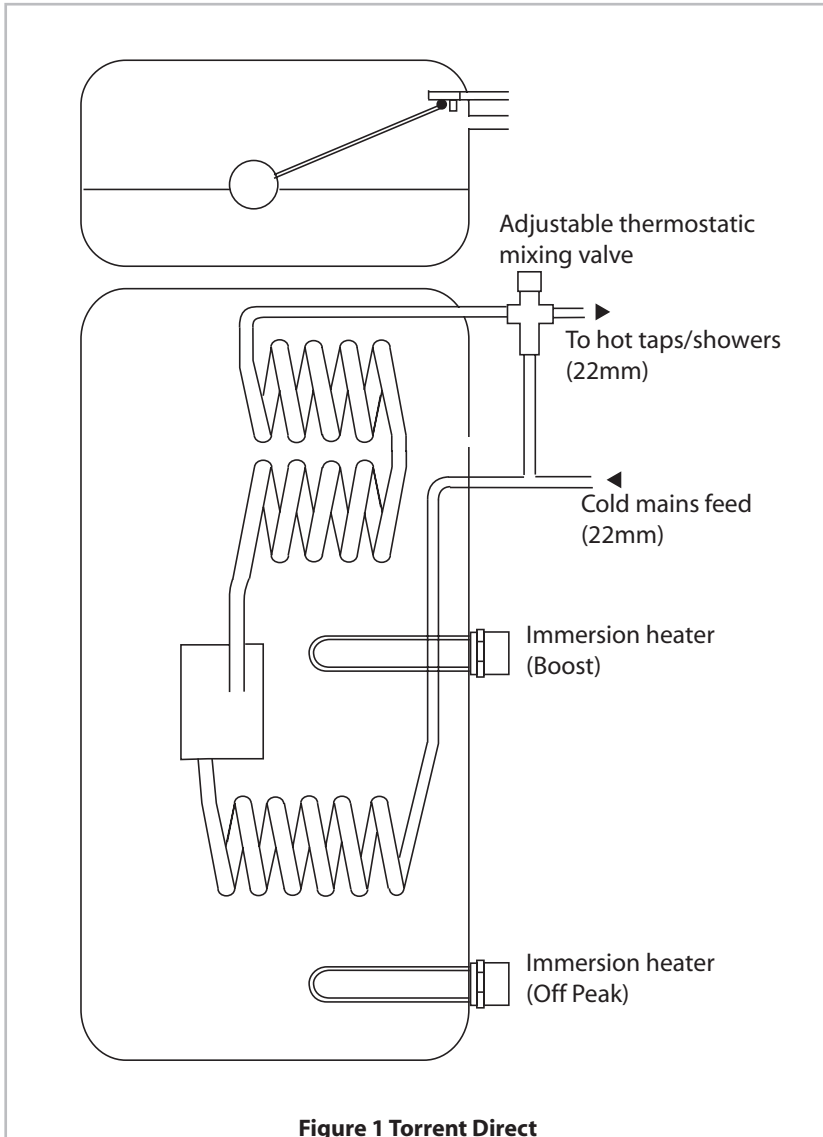

Figure 1 Torrent Direct
1. **Torrent Direct** - For providing hot water heated by electricity. (Figure 1)
TORRENT DIRECT (Figure 1)
TABLE 1 TORRENT DIRECT MODELS (Figure 1)